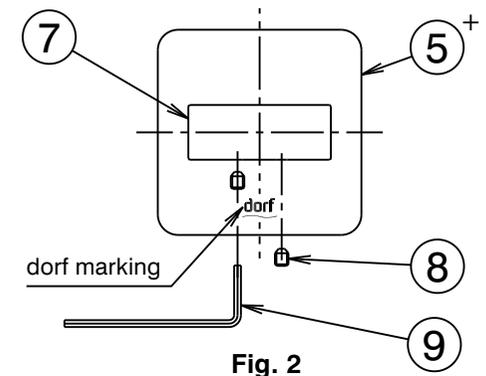

Fig. 2
- 3) Apply a suitable clear sealant to the back edge of the cover plate (5⁺), leaving an unsealed section at the bottom for drainage. Carefully place the hole in the cover plate (5⁺) over the spigot of retainer (2) then push the cover plate against the wall/tile face & position with the 'dorf' marking as shown in Fig.2. Fit wall basin outlet (7) onto spigot of retainer (2), taking care that 'O'Rings are not damaged as they enter bore of outlet, then push it firmly against the cover plate (5⁺) while tightening grub screws (8) using the 2.00mm allen key (9) provided. Take care that the top face of the basin outlet is horizontal before tightening screws (8). Wipe clean any excess sealant from the chrome surfaces & the wall/tile face.